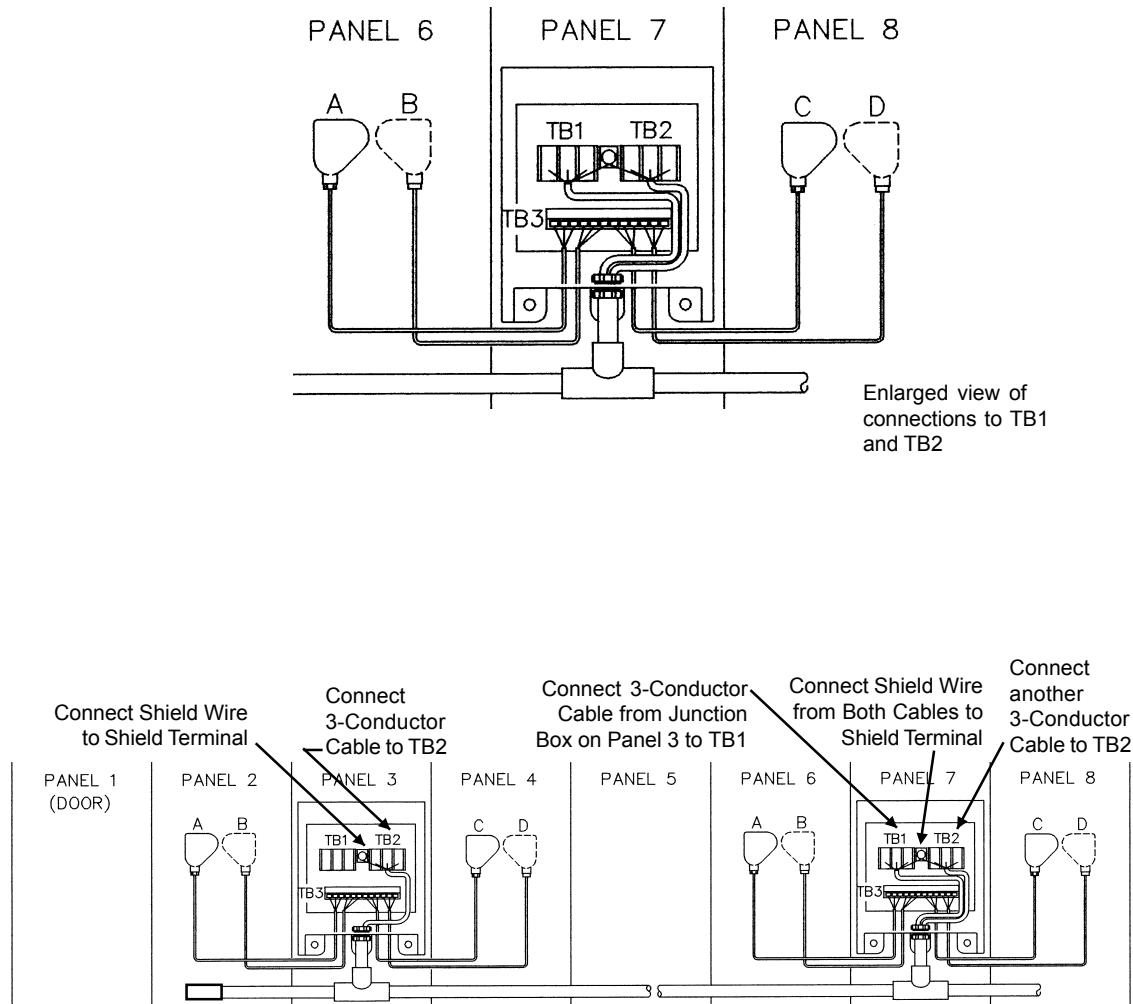
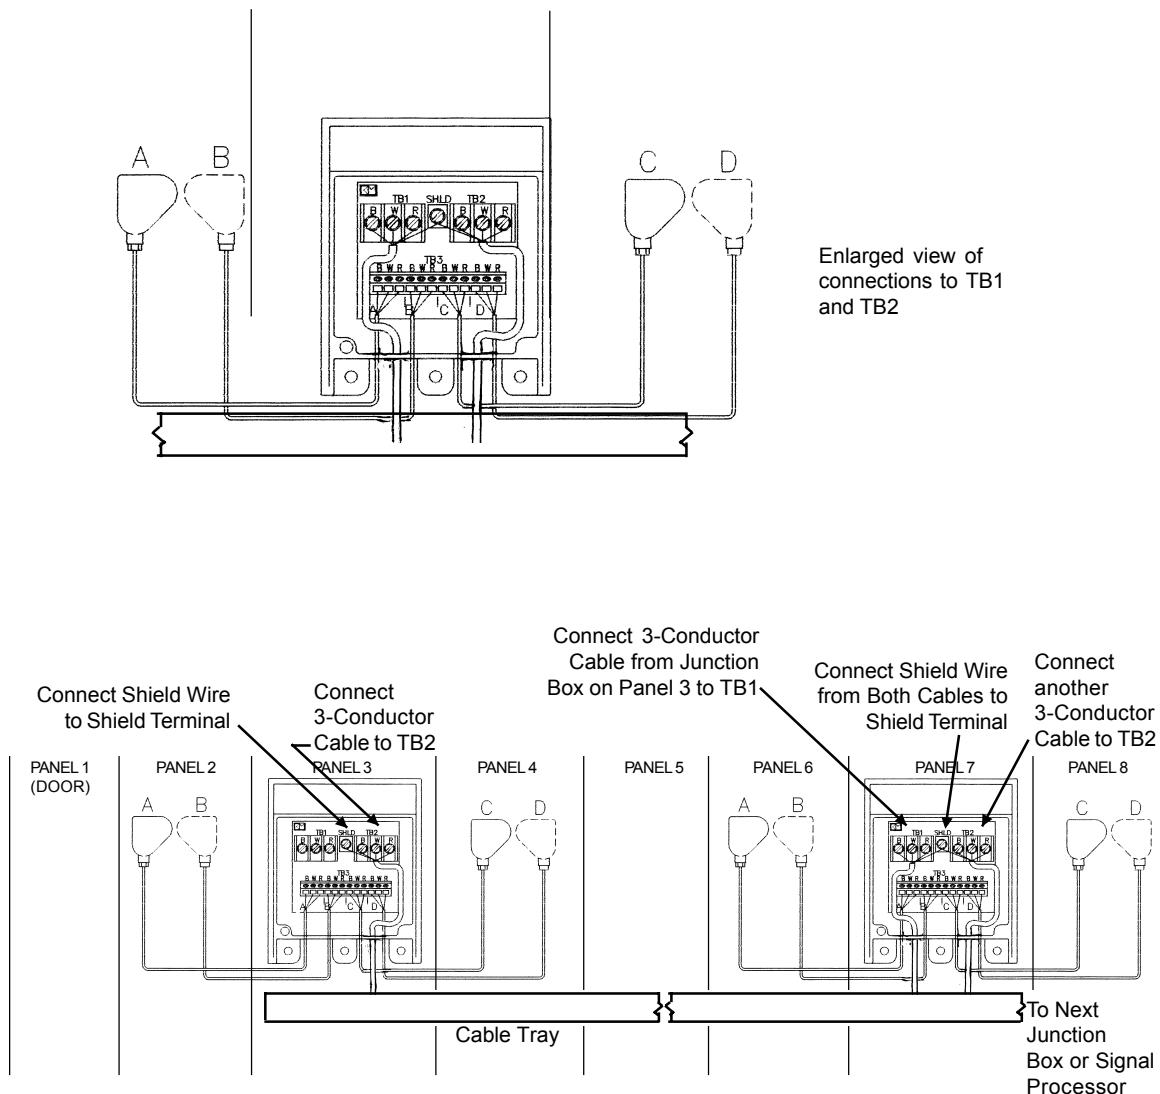

Figure 5-40. Wiring Junction Boxes Together (inside view of skirt) — Conduited Installation
Figure 5-41. Wiring Junction Boxes Together (inside view of skirt) — Non-Conduited Installation
2. See Figure 5-40 (conduited installation) or Figure 5-41 (non-conduited installation). Route the 3-conductor cable through the fitting into the junction box farthest from the signal processor. Connect wires from the cable to the TB2 terminal in the junction box: black wire to B, white wire to W, and red wire to R. Connect the cable shield wire to the Shield terminal between TB1 and TB2.